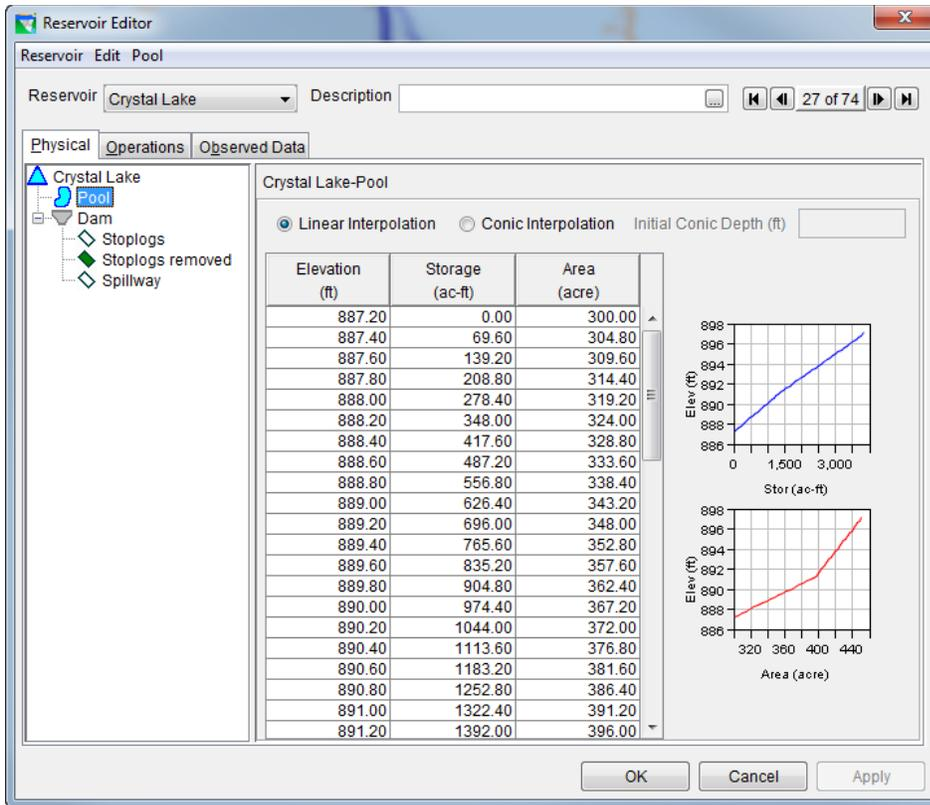

Figure 3: Reservoir Editor -- Physical Tab -- Pool
The physical characteristics of the reservoir are separated between the Pool and the Dam in the HEC-ResSim model. The elevation-storage-area defines the pool as shown in Figure 324. The dam consists of two types of outlets: (1) uncontrolled stoplogs, (2) uncontrolled spillway as shown in Figure 425.